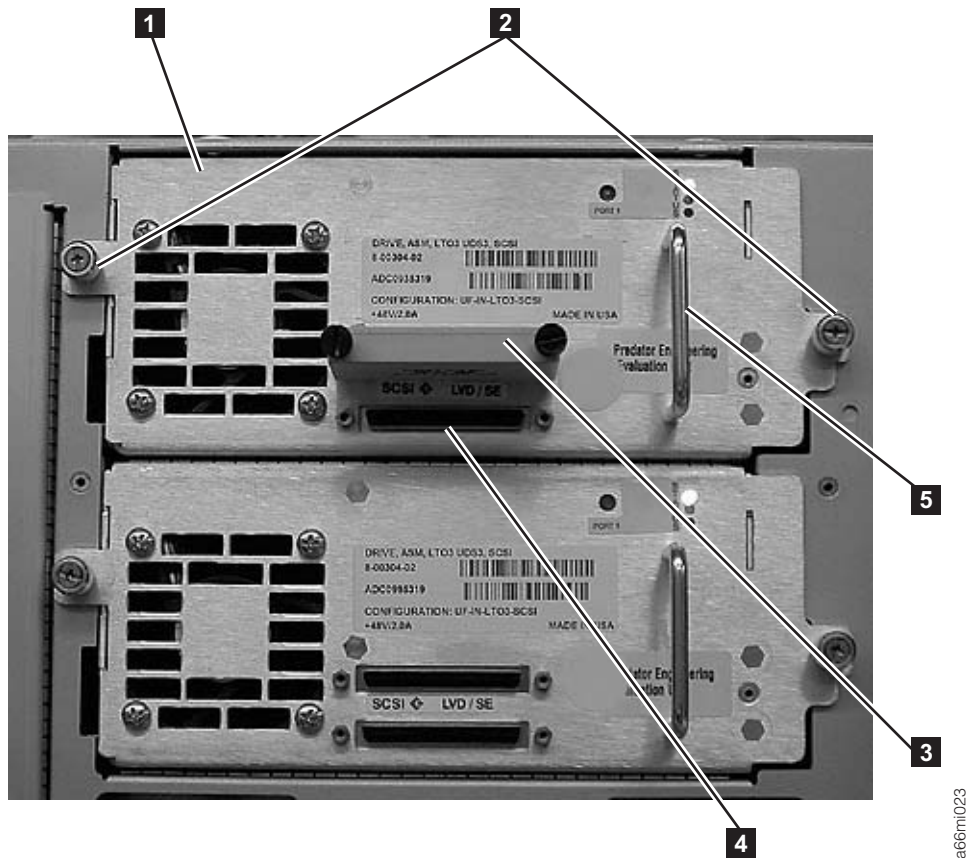
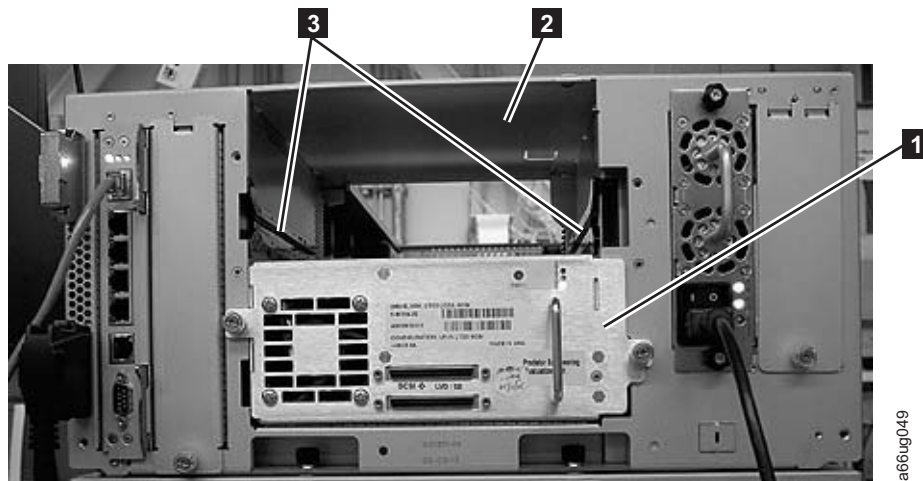

Figure 8-34. Drive sled (detail)
Figure 8-36. Drive sled slot
3. Loosen the two thumb screws (**2** in Figure 8-34) that hold the drive in place by turning them counterclockwise.
4. Slide the drive out of the library module. Grasp the handle (**5** in Figure 8-34) and slowly pull the drive toward you, while supporting the drive sled from underneath.
1. Align the drive sled with the guide rails and guide slots along the tracks (**3** in Figure 8-36) in the open drive sled slot (**2** in Figure 8-36). Grasp the handle (**5** in Figure 8-34 on page 8-36) and slowly slide the drive sled into the library, while supporting the drive sled from underneath.
2. Tighten the two thumb screws (**2** in Figure 8-34 on page 8-36) that hold the drive sled in place by turning them clockwise.
- a. For a SCSI drive sled, plug the cable and terminator into the drive sled. Tighten the thumb screws that hold the SCSI cable (**4** in Figure 8-34 on page 8-36 shows the SCSI receptacle) and terminator (**3** in Figure 8-34 on page 8-36) in place by turning them clockwise.